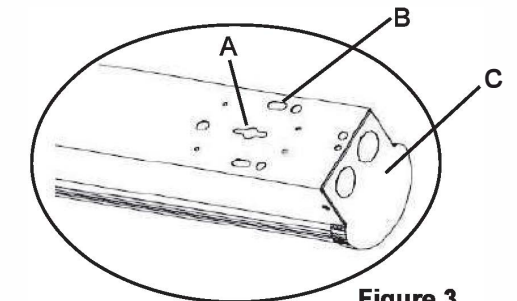

Figure 3
- Step3: Fix the luminaire onto the ceiling by the self-tapping screws. Slide into key hole slots on the top side of the luminaire base. (Figure 3 A)
- Step1: Mount V-hooks to the luminaire (Figure 3 B)